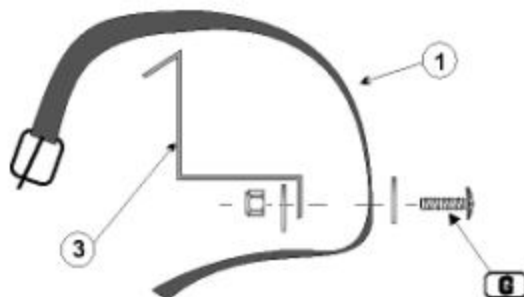

Fig. 1
Step 1: Pre-assemble holddown strap ① to outer Ladder Step Guide ③ using fas. group **G** (see fig.1). Buckle towards the top so it can be placed over ladder then tightened by pulling down on the strap once it is in the buckle.
Step 3: Install outer Ladder Step guide with the Holddown Strap attached (Fig.1) to Cross Supports using fas. Group (F) See Fig. 4